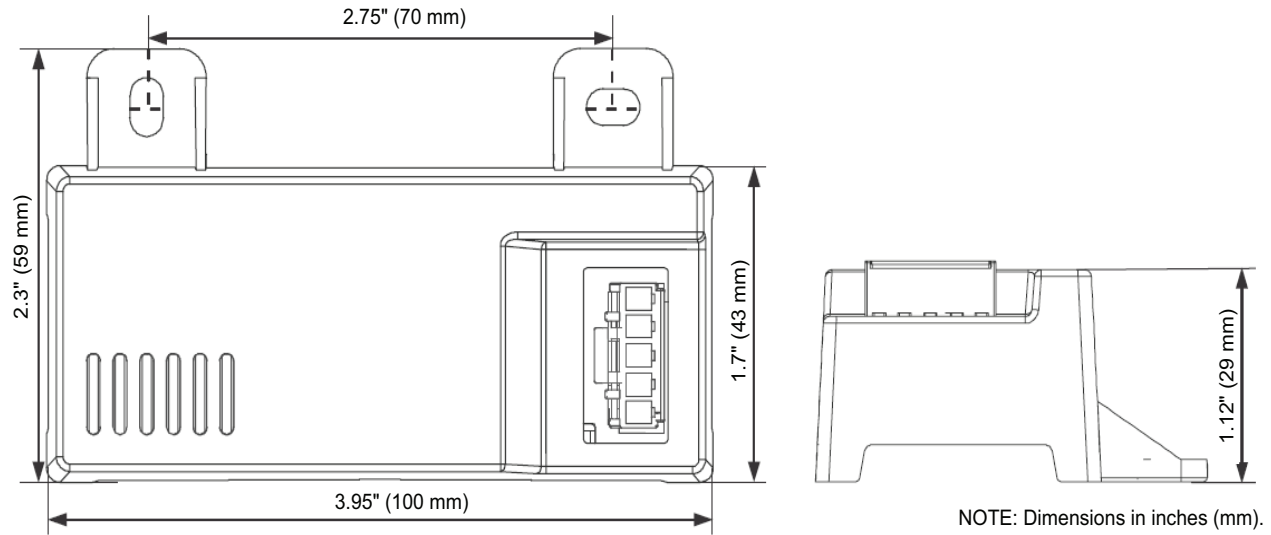
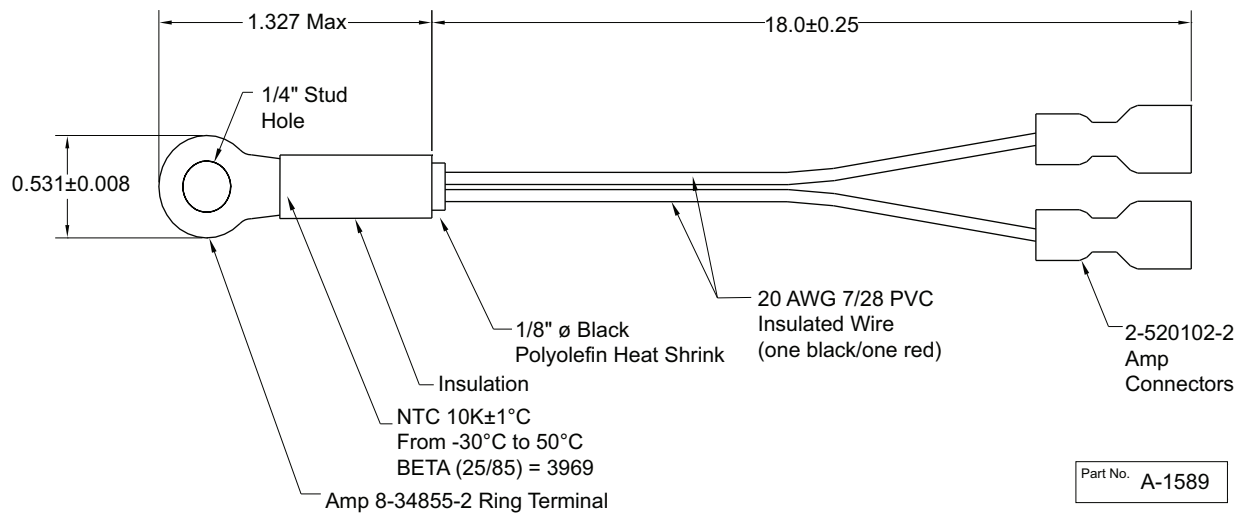
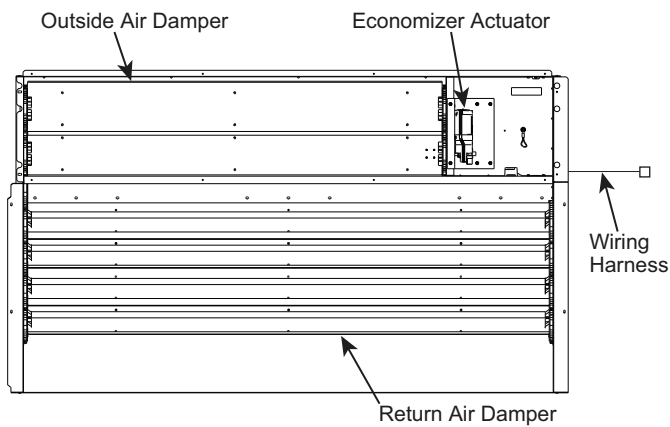

Fig. 77 — HH57LW001 Dimensional, Connection and Switching Information
Fig. 78 — HH79NZ039 Dry Bulb and Mixed Air Sensor Wiring
Fig. 79 — EconomizerONE System Component Locations
When using the HH57LW001 enthalpy sensor (see Fig. 77) for outside air changeover, the existing HH79NZ039 dry bulb sensor (see Fig. 78) must be removed. The enthalpy sensor will be mounted in the same location as the dry bulb sensor (see Fig. 79). When the enthalpy sensor's OA (Outside Air) temperature, enthalpy, and dew point are below their respective set points, outside air can be used for free cooling. When any of these are above their set point, free cooling will not be available. Enthalpy set points are configurable and create an enthalpy boundary according to the user's input. For additional details, see Fig. 80-81 and Table 24.
The optional enthalpy control sensor (P/N: HH57LW001) communicates with the POL224 economizer controller using the 5-wire harness, 48TC005213. The HH57LW001 sensor can be used as a single outside air enthalpy, a differential return enthalpy, or a differential return temperature sensor. Refer to the base unit control wiring diagrams found earlier in this book to wire the HH57LW001 enthalpy sensor for each option. See Fig. 77 and Table 26 on page 69 to locate the wiring terminals for each enthalpy control sensor.
Economizers are shipped standard with an HH79NZ039 outside air dry bulb sensor (refer to Fig. 78). System default setting (high temp limit) is 63°F (17°C) and has a range of 48°F to 80°F (9°C to 27°C). Sensor is factory installed on economizer.
If installing the optional HH57LW001 enthalpy sensor, the HH79NZ039 dry bulb outside air sensor must first be removed. Wire sensor to harness 48TC005213 and the (5) wires from the harness to the EconomizerONE harness in the return air chamber. Harness 48TC005213 has a 5-pin plug that connects directly to the HH57LW001 enthalpy sensor. Refer to the base unit control wiring diagrams earlier in this book for wiring connections. Refer to Fig. 77 and see Table 26.